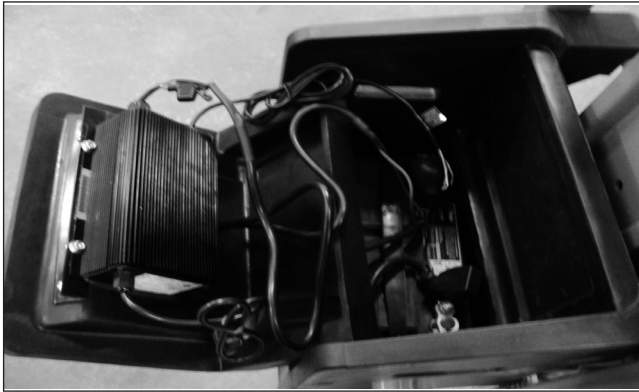

Figure 9.5 – Battery Box
A battery is enclosed in the battery box at the rear of the aerial platform for DC models (refer to Figure 9.5).
- To open the battery box, open the cover (refer to Figure 9.5).